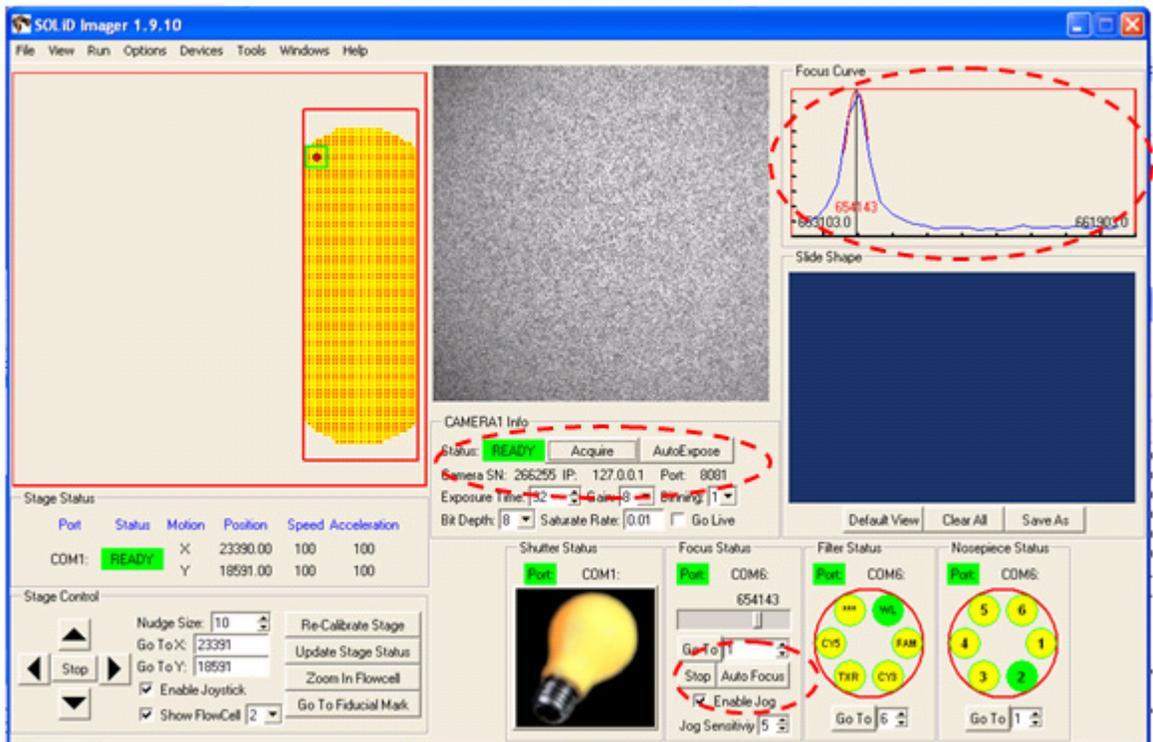

Figure 73 Click **AutoFocus** and **AutoExpose** so that the focus peak falls in the focus range.
- In the Imager window, click the **AutoFocus** button, then wait about 20 seconds for the Imager to focus on the slide (see Figure 73). The Camera 1 indicator displays **BUSY** while autofocus is running. When the Camera 1 indicator displays **READY**, click **AutoExpose**, then wait for the Camera 1 indicator to show **READY**. Click **AutoFocus** so that the Imager can focus again (this time with correct exposure settings). Note where the focus peak falls in the focus range by looking at the value that displays where the peak is located.